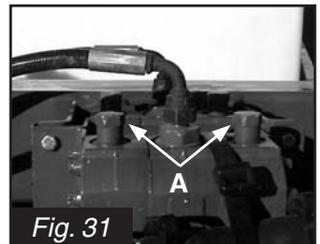

Fig. 31
1. Remove the caps (A)(Fig. 31).
3. Replace caps (A)(Fig. 31) and tighten.